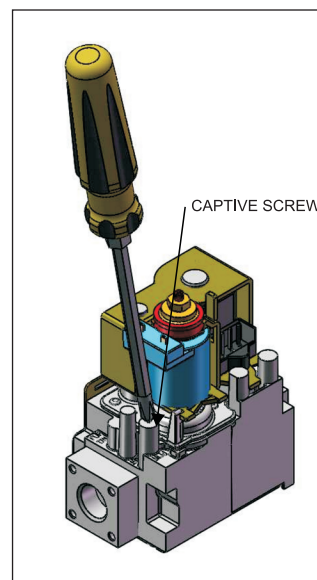
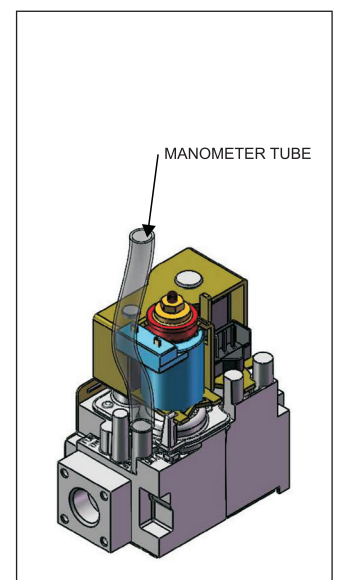

FIG 38
FIG 39
2. The pressure test point is closed with a captive screw. Turn screw 6 revolutions anticlockwise to open the pressure test point as indicated in **FIG 38** and place manometer tube over the test point as per **FIG 39**.